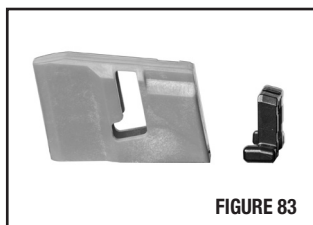

FIGURE 83
- (FIGURE 83) shows the magazine follower and load assist button removed from the tube to show orientation.